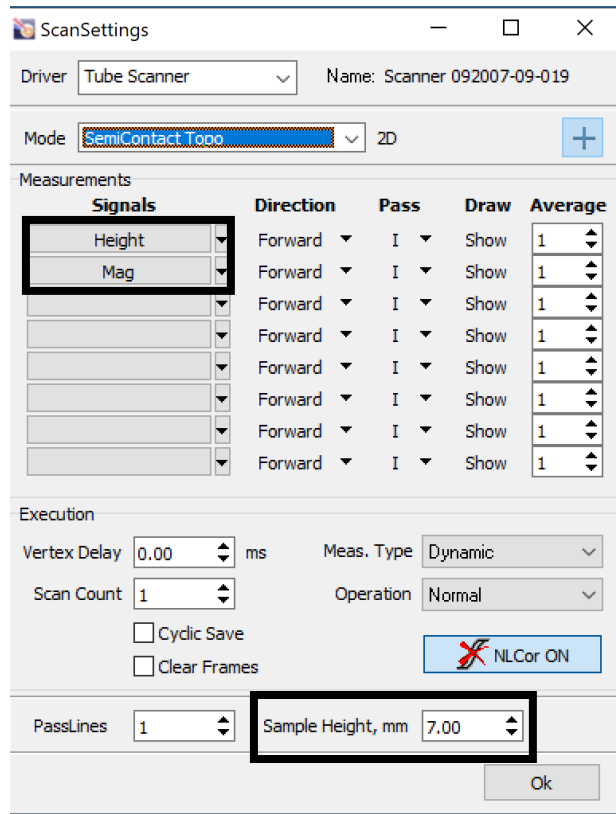

Figure 21: Scan settings menu
- This brings up the settings menu (Figure 21) in this menu select the desired signals. For standard AFM select “height” and “Mag”. **In the bottom right of the menu put in the sample height that was measured earlier, don’t forget to do this.**